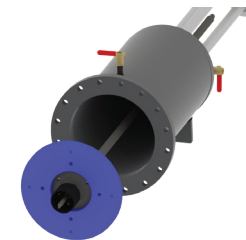

Figure 10
**3.0.7)** With the installation housing lying on its side, insert the cutter assembly, shaft first, into the housing and through the packing nut until the cutter and its pilot drill are completely inside the housing (see Figure 10).